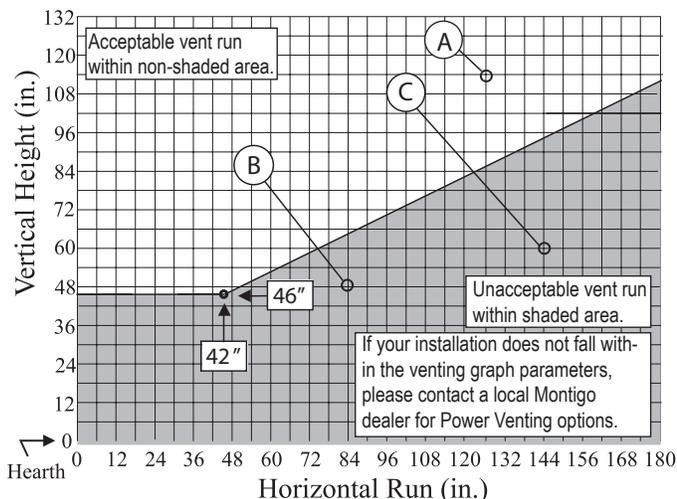

Figure 12. H38PF* or HL38PF* Top Vent Venting Graph for wall mounted terminations.
- Once the proposed venting layout has been determined refer to *Figure 12, 13, 14, or 14a* to ensure the layout is acceptable.
- Venting runs *must* fall within the limits set by the venting graph, see *Figure 12 or 13*.
Measure the vertical height from the fireplace hearth to the centre of the termination and the horizontal run from the fireplace flue collar to the wall flange of the termination. Plot on the Venting Graph *Figure 12 or 13* with an 'X'.
Figure 12a. H38PF* or HL38PF* Top Vented, wall mounted installation with one 90° bend. The vent run must comply with Venting Graph for Top vent, wall mounted terminations, Figure 12.
Figure 13b. H38PF* , HL38PF* or HP38PF* Top Vented, wall mounted Multi-elbow installation. See Venting Graph for Top vent, wall mounted terminations, Figure 12 or 13.
Figure 13b. H38PF* , HL38PF* or HP38PF* Top Vented, wall mounted Retracted Multi-elbow installation. See Venting Graph for Top vent, wall mounted terminations, Figure 12 or 13.